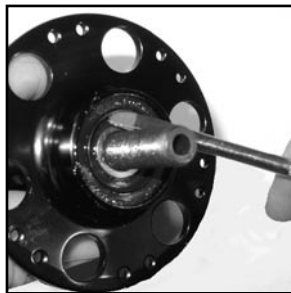

Fig. 4F
3. Insert a thin screwdriver blade under the bearing seal (Fig. 4F) and pry off the seals from both sides of the hub.